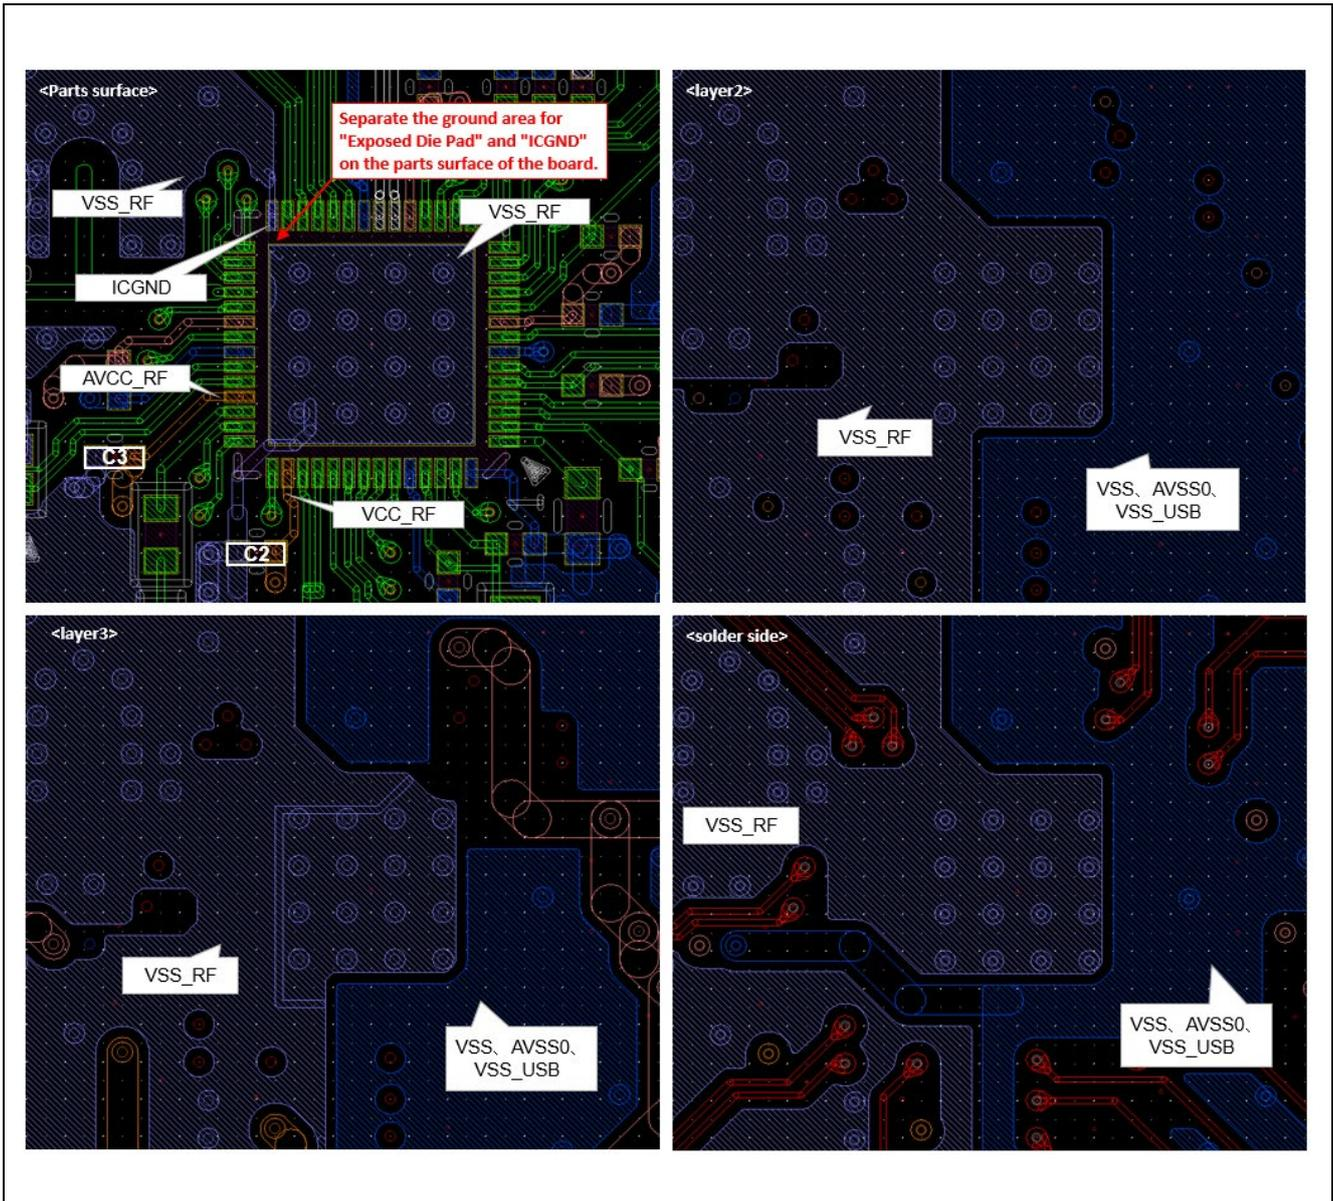

Figure 2-12 Example of the ground pattern
- Under layer of IC Package should be "VSS_RF" solid ground. Make the ground patterns of "VSS_RF" low impedance. It is recommended to place vias as shown in "Figure 2-12 Example of the ground pattern".
Figure 2-12 shows an example of the ground pattern.